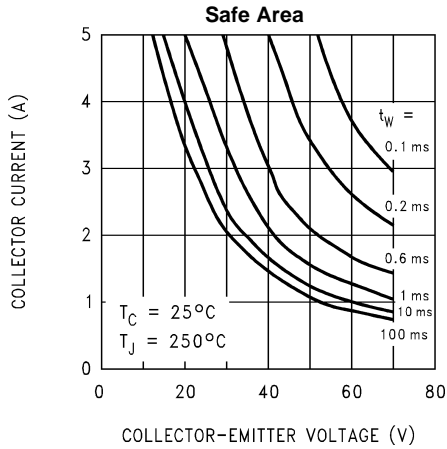

Figure 4.
**SPiKe Protection:** The LM3876 is protected from instantaneous peak-temperature stressing by the power transistor array. Figure 4 in Typical Performance Characteristics shows the area of device operation where the SPiKe Protection Circuitry is not enabled. The waveform to the right of the SOA graph exemplifies how the dynamic protection will cause waveform distortion when enabled.